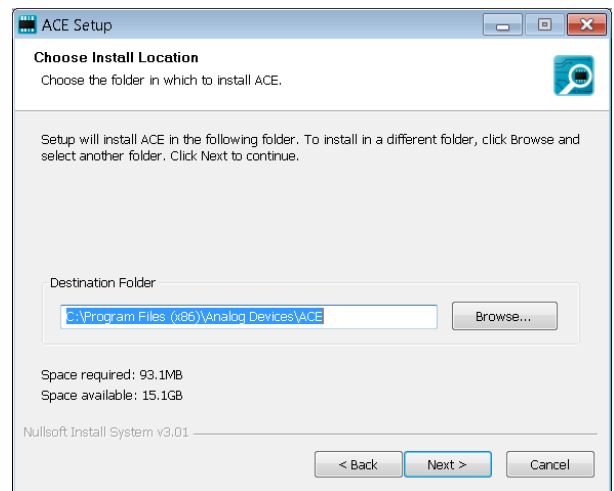

Figure 5. Choose Installation Location
6. Click **Browse...** to choose the installation location and then click **Next >** (see Figure 5).